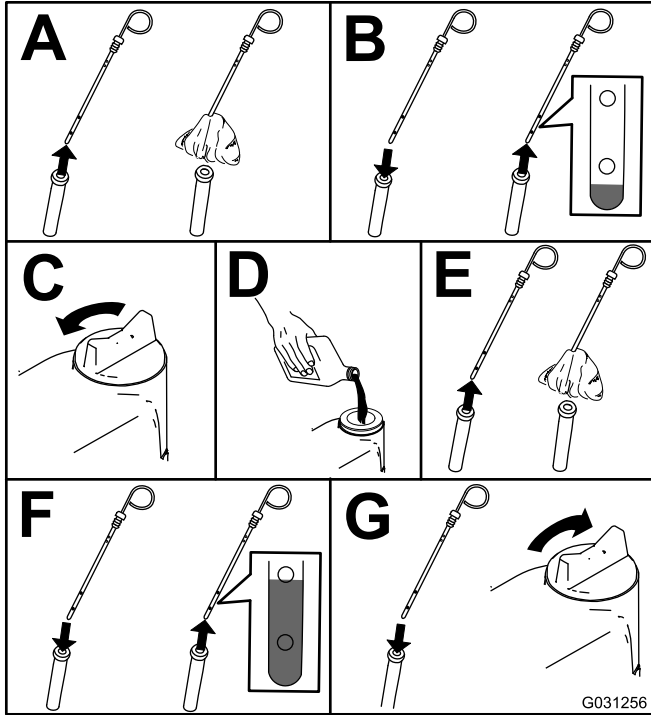

Figure 41
2. Check the engine-oil level (Figure 41).